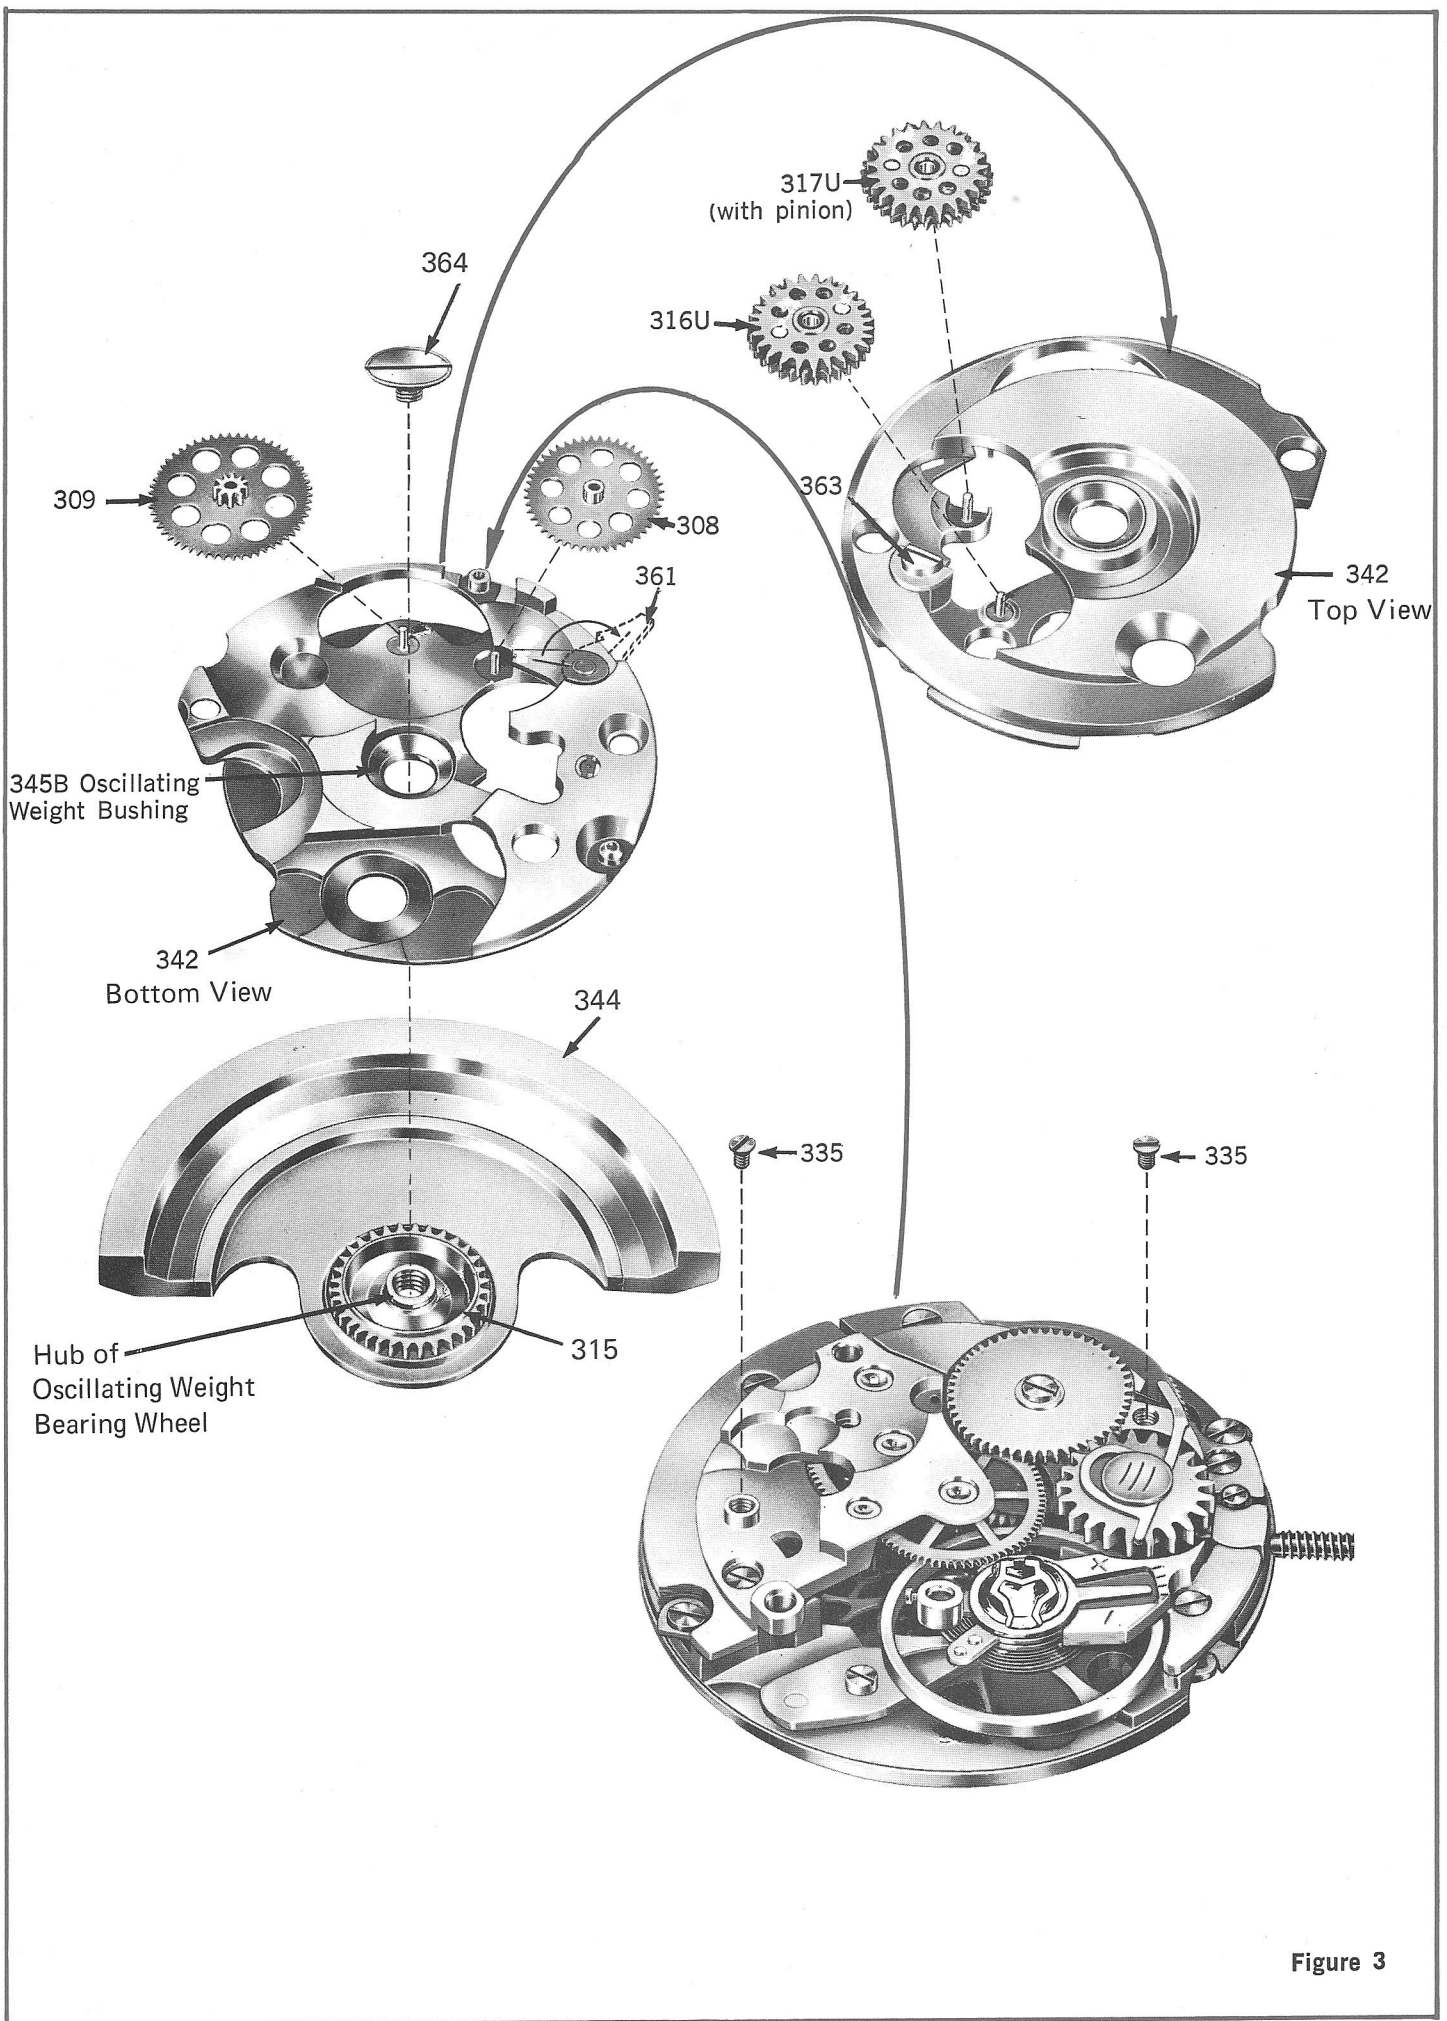

Figure 3
To **decrease** its endshake, remove metal from hub of the oscillating weight bearing wheel #315 using a flat milling cutter. (Fig. 3) Correct endshake between the screwhead and bushing is .02 mm.
1. See Fig. 3. Lubricate with **thin** oil the bearings and the two arbors of the inner clicks of both pawl wheels (parts #316U and #317U). (These arbors can be seen by looking down at the top of the wheels into its holes. The arbors look like the tops of metal pins. There are four in all.)
3. Turn over automatic device framework #342. Lubricate both reduction gear and ratchet wheel driving gear posts with **thick oil** or **grease**. With the reduction gear bolt #361 swung open, replace the ratchet wheel driving gear #309 (pinion up). Now, replace reduction gear #308 (pinion down). (Fig. 3)
6. Clean the top and bottom surfaces of the oscillating weight bushing #345B in the framework (Fig. 3) with sharpened peg wood and lubricate with **thick oil**.
7. Position complete framework onto oscillating weight #344 (Fig. 3) and fasten with oscillating weight bearing wheel screw #364, using a screw driver with a blade width of $\frac{3}{4}$ the diameter of the screw slot.
If the automatic mechanism requires dismantling, follow the instructions listed below: (Fig. 3)